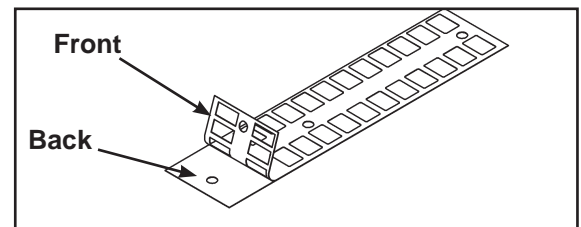

Figure 4
- A. Slowly and carefully peel off back side of decal. **NOTE:** When peeling off back cover, make sure that the decals remain attached to the front sticker. Figure 4.